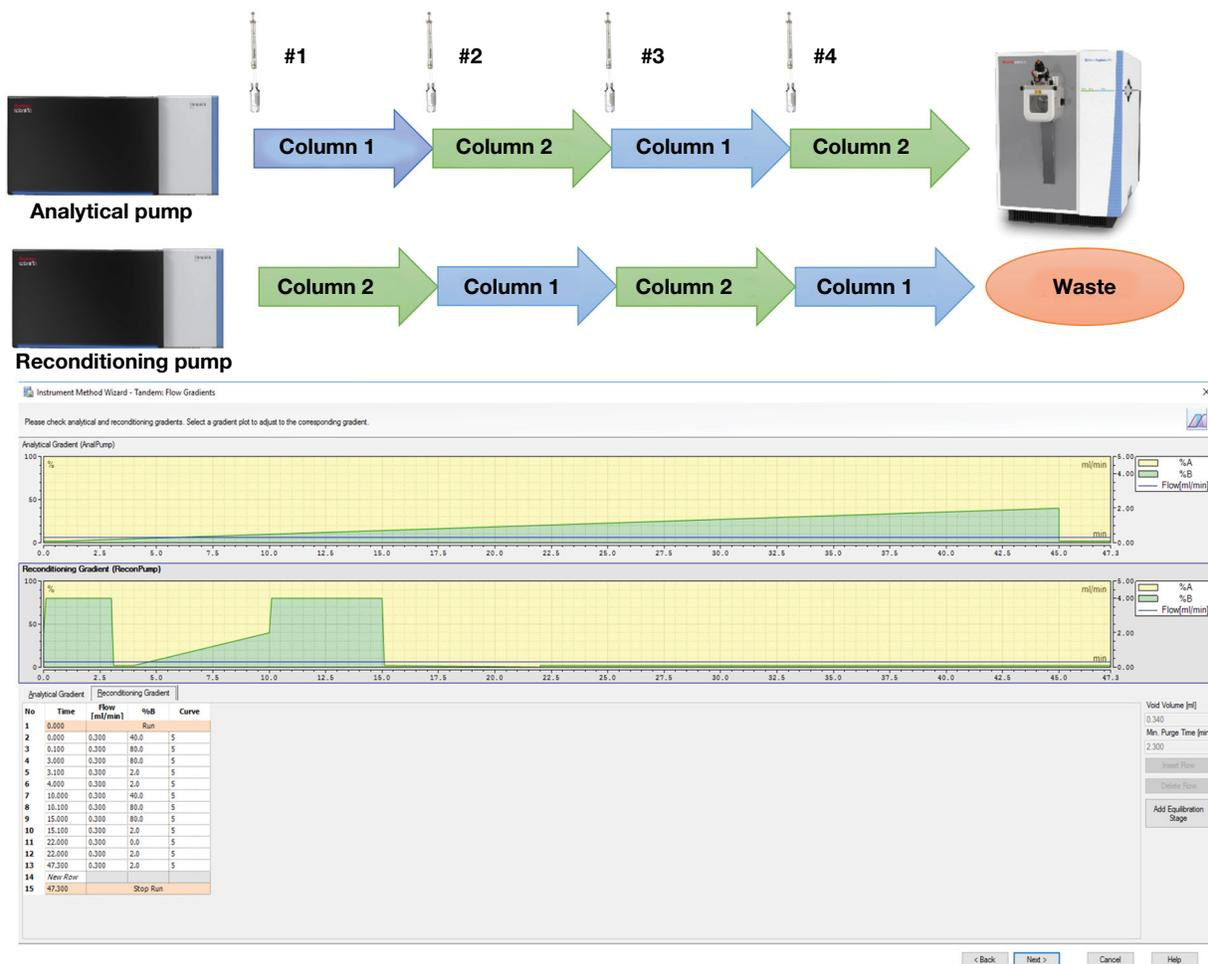

Figure 2. Schematic representation of Tandem LC-MS workflow and sequence setup in Chromeleon CDS
compartment before and after the LC columns divert the analytical pump to column 2, starting a new analysis while washing of column 1 starts and re-equilibration steps are performed offline, thus MS idle time is minimized (Figure 2).
Here, we demonstrate the applicability of the Vanquish Tandem LC system and a Thermo Scientific™ Orbitrap Exploris™ 240 mass spectrometer for peptide mapping analysis of trastuzumab drug product. With this approach, a greater number of sample injections can be performed in the same timeframe, enhancing throughput and significantly reducing MS idle time (Figure 2).
- Gradient details, see Figure 2